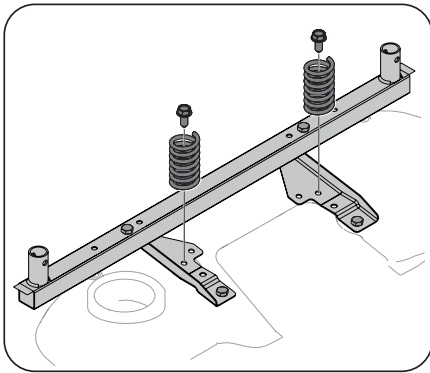

Figure 3-6
5. Reinstall the seat springs and hardware that were removed earlier in the procedure as shown in Figure 3-6.